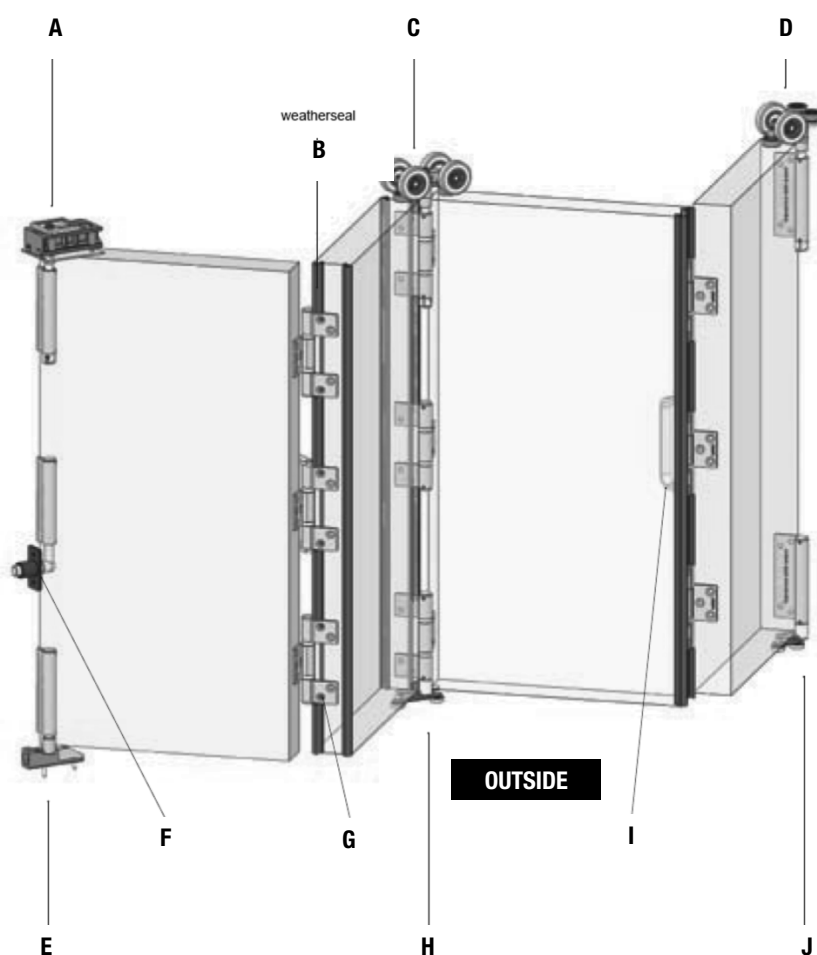

FIG. 1
- C) Check all parts received against the packing list to ensure all required parts are present. (Fig. 1)